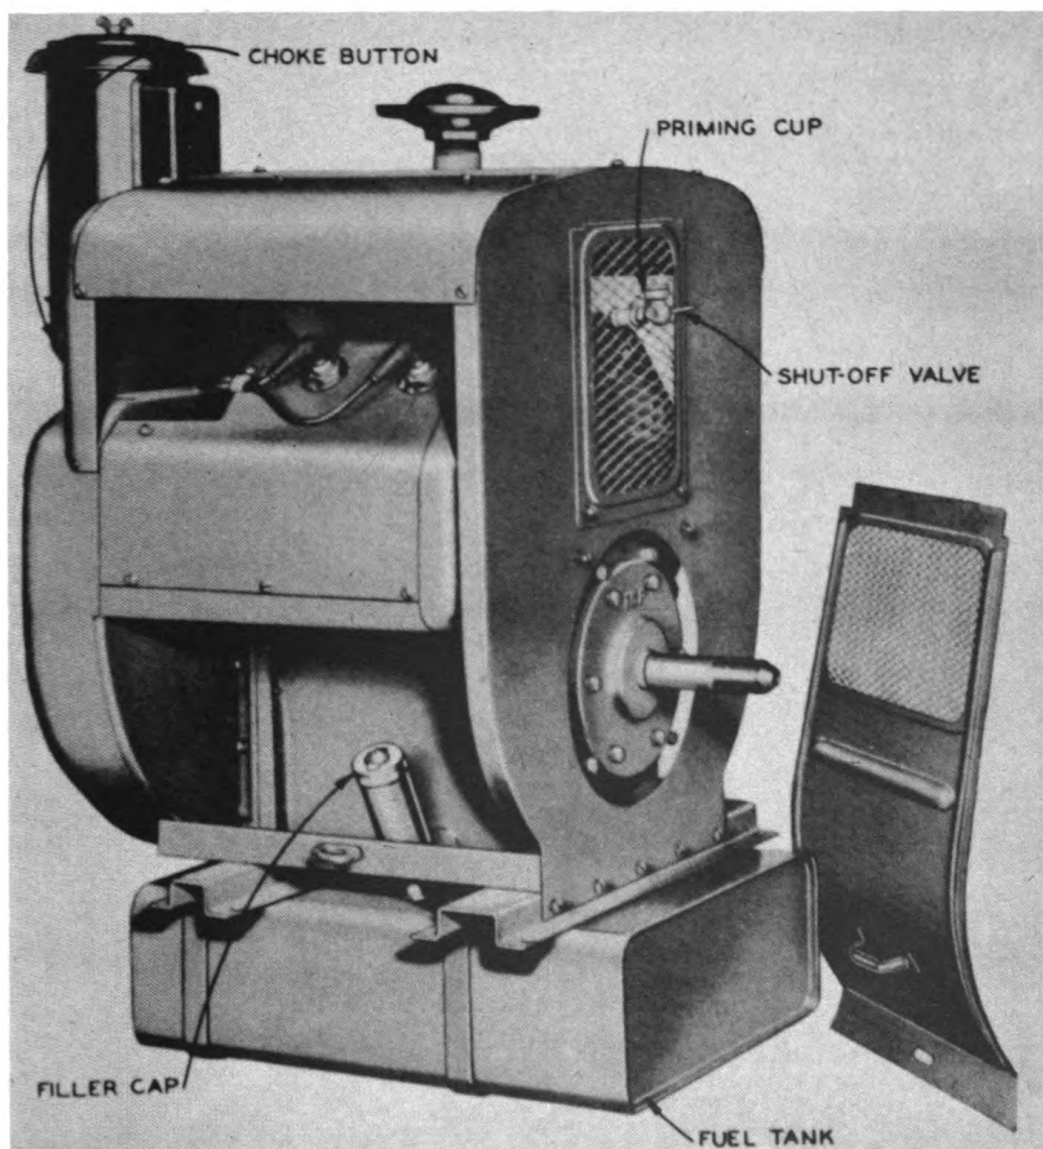

Fig. 22
**HOW TO START**—Pull out the choke button on the control panel and crank the engine. When engaging the starting crank, engage in such a manner that the crank may be pulled up, not pushed down. This is a matter of safety as a backfire of the engine while cranking might injure the operator's arm. It is not advisable at any time to spin the engine. The operation of cranking may have to be repeated several times to draw gas into the cylinders. To facilitate priming the engine, a priming cup is provided at the takeoff end of the engine. (Fig. 22). The valve on this priming cup should be opened and approximately two ounces of gas poured into the cup. This gas will find its way into the float chamber of the carburetor and after the engine starts, the fuel pump will immediately draw gas from the fuel tank.